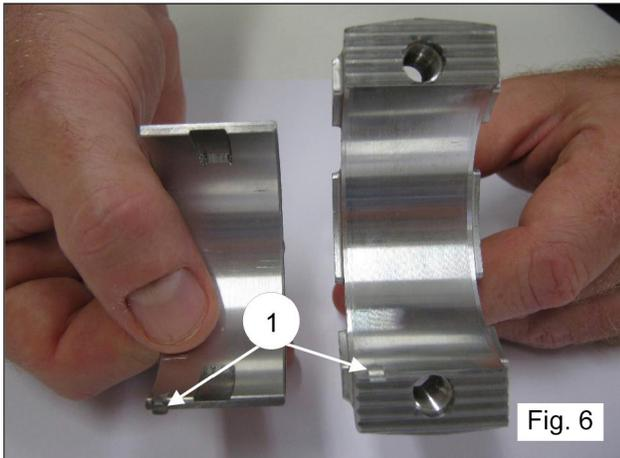

Fig. 6
Make sure that the reference marks on the upper half-bearings (fig. 6, pos.1) and lower half-bearings (fig. 6/a, pos. 2) are positioned in their respective seats in the con-rod and cap.
If the plunger guide rods have been disassembled, before reassembling them check the correct positioning of the sealing O-rings, (fig. 6/b, pos. 1) replace them if necessary. Tighten the plunger guide rods through the respective two M6 screws to the torque specs indicated in the table on page 24.